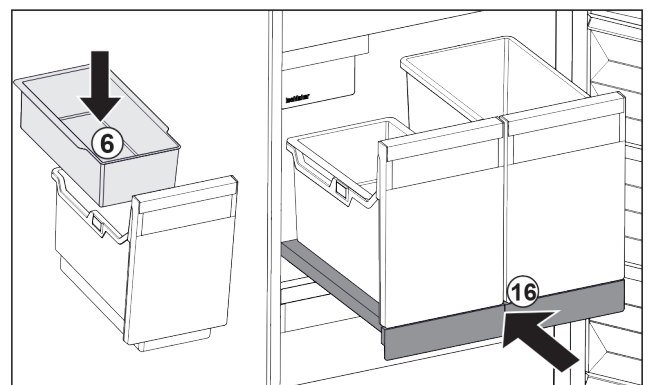

Fig. 146
- ▶ Insert hang-on tray *Fig. 146 (6)* for ice cubes.
- ▶ Slide in the pull-out board with (IceTower) container. *Fig. 146 (16)*